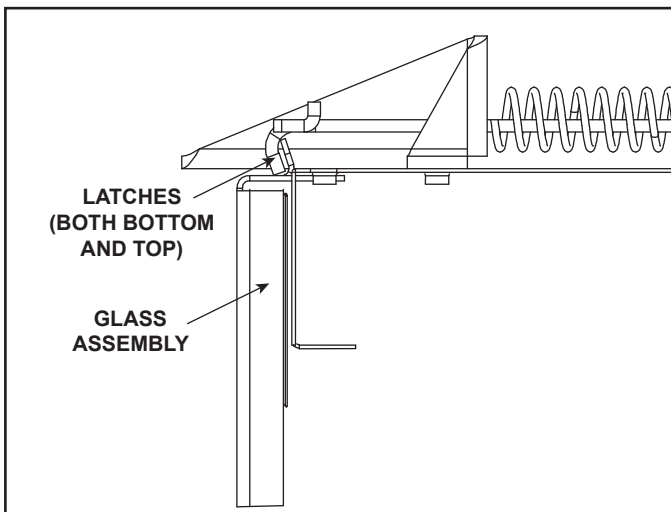

Figure 11.1 Fixed Glass Assembly
- Pull the four glass assembly latches out of the groove on the glass frame. Remove glass assembly from the appliance. See Figure 11.1.